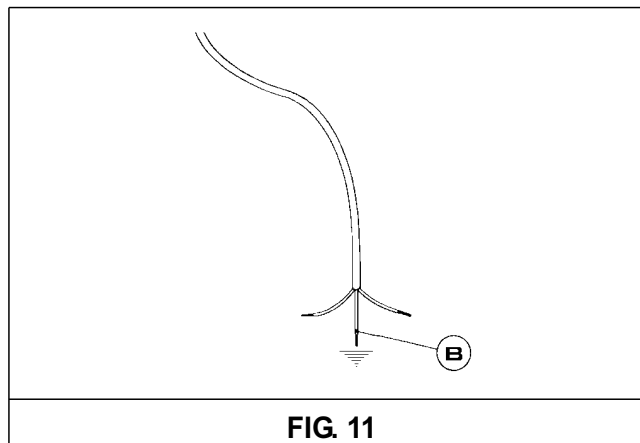

FIG. 11
*If the power supply cable is replaced, the installer should leave the ground wire (B) longer than the phase conductors (fig. 11) and comply with the recommendations given in paragraph 6.*